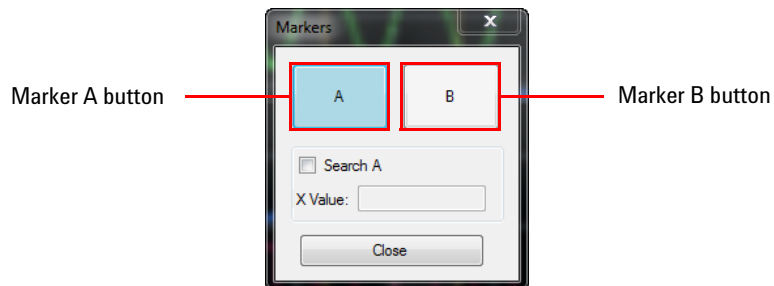

Figure 2-76 Markers dialog
- 3 The Markers dialog is displayed on the graphical interface as shown in Figure 2-76.